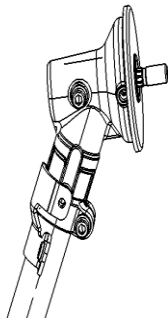
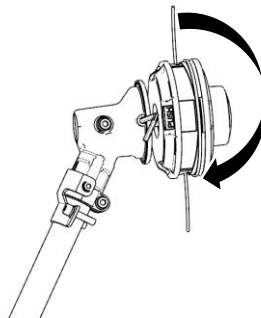

Fig.4
Fig.5
2. Rotate the drive shaft until you can see a hole inside the gear case side (Fig4), put the #1 Allen key inside the inside hole, and rotate the trimmer head onto the drive shaft by anti-clockwise, until it's tight enough (Fig.5)